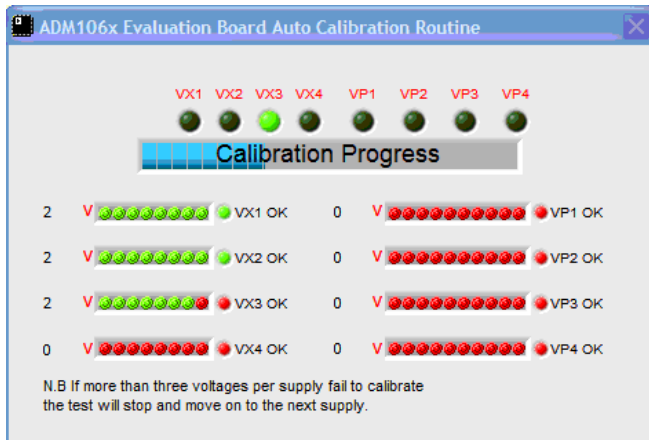

Figure 75. Onboard power supply calibration window
**Calibrate Evaluation Board:-** This function will launch a program as shown in figure 75 which will individually calibrate the 72 onboard power supplies to +/- 1% accuracy.